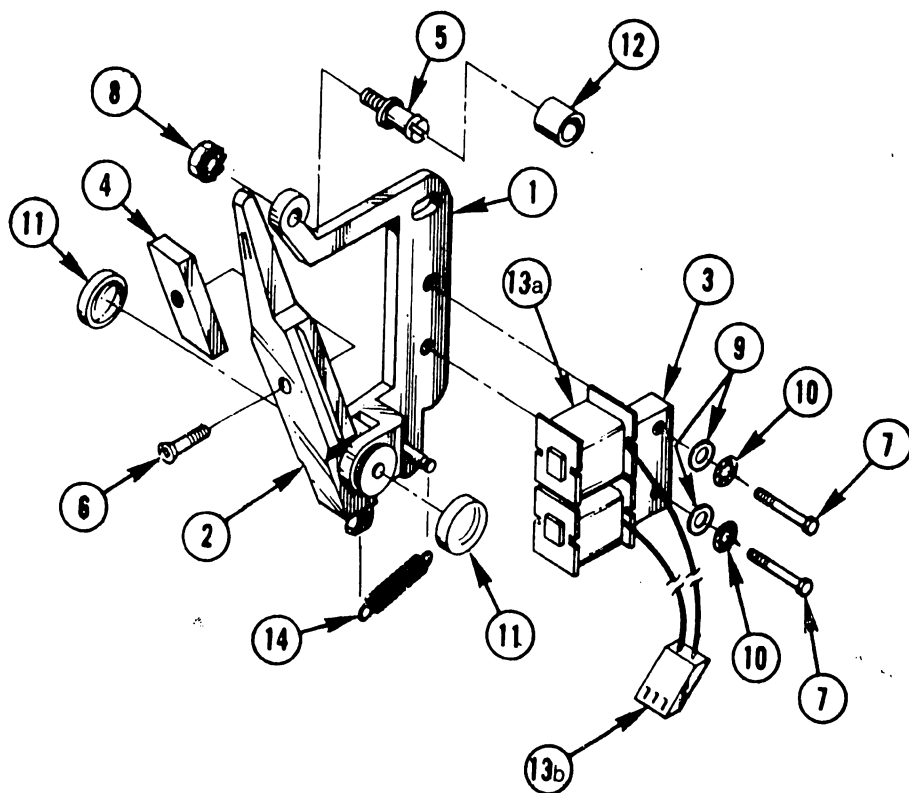

FIGURE 9-9 PRINT YOKE AND BEARING ASSEMBLY
9.3.8 PRINT YOKE AND BEARING ASSEMBLY (SEE FIGURE 9-9)